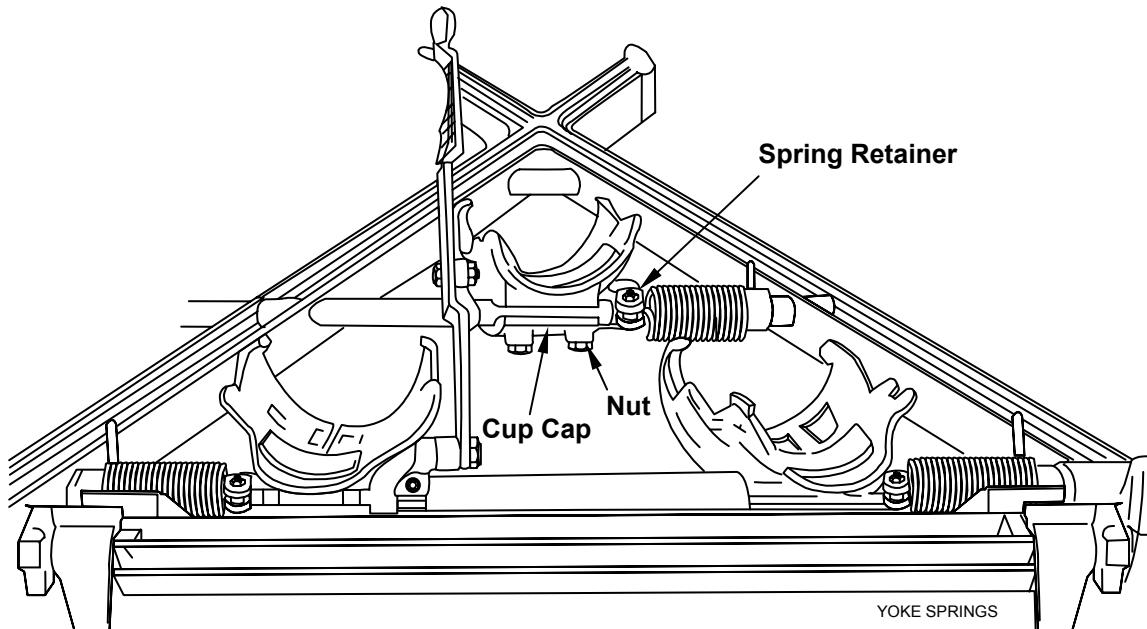

Figure 4.2-15
1. With the table in the home position, loosen the spring retainer's locking nut slightly and tap the spring retainer on the yoke shaft so that the spring end is in line with the top of the nuts on the spotting cup cap (see Figure 4.2-15). This is the initial (approximate) setting.